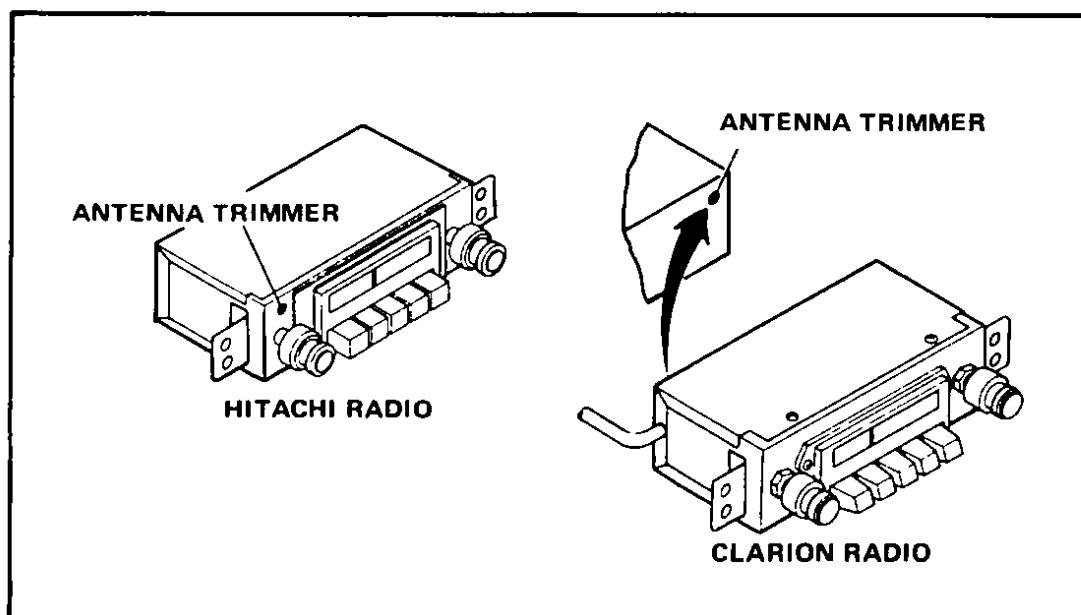

Fig 81 Antenna trimmer adjustment screw – Model 710
- 10 Adjust the antenna trimmer as follows, Fig 81